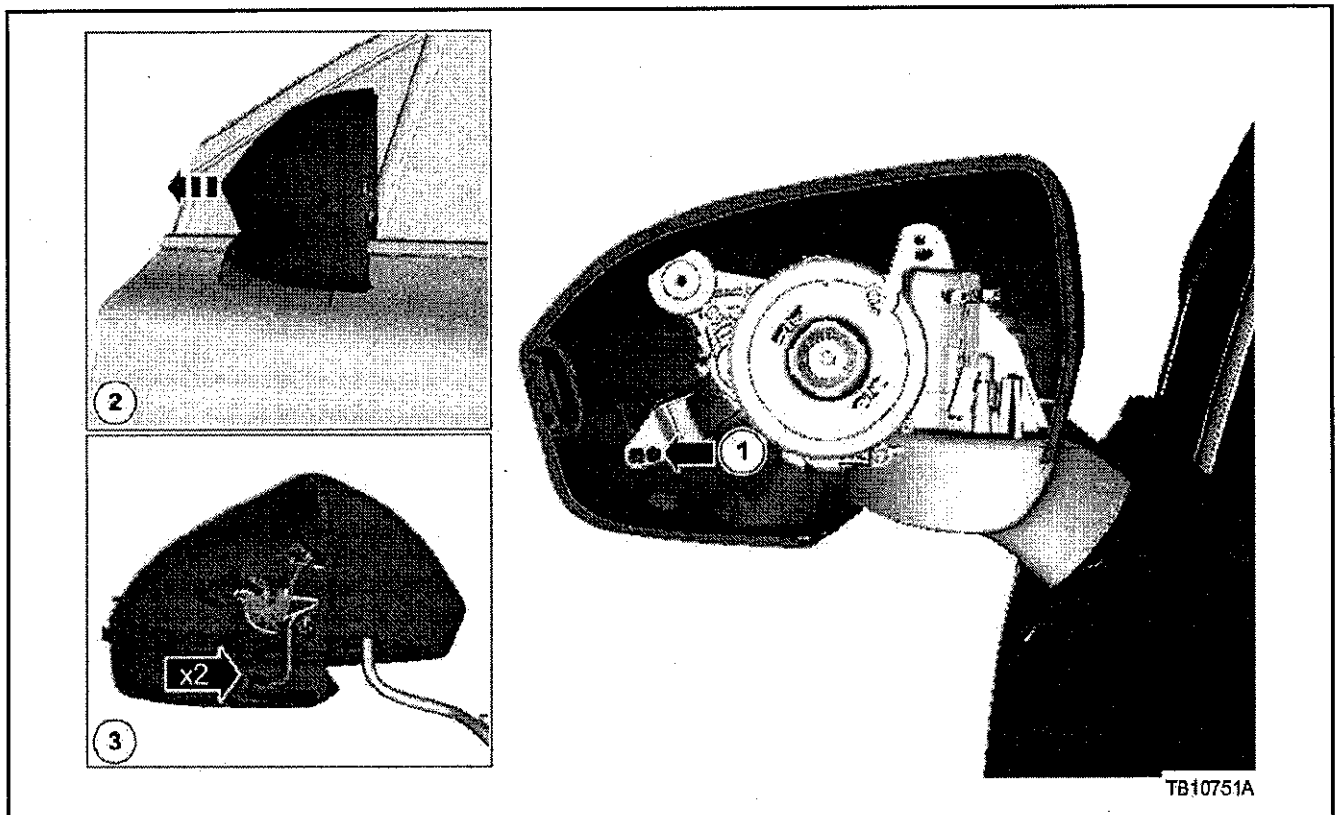

Figure 4 - Article 15-0135
4. Remove the screw and position the mirror cover aside. (Figure 4)